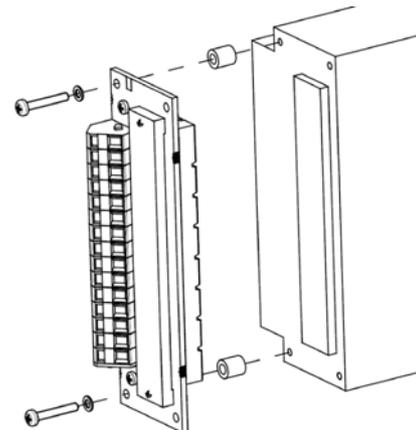

Fig. 27
- Cage clamp adapter HZZ00144-G; see fig. 27